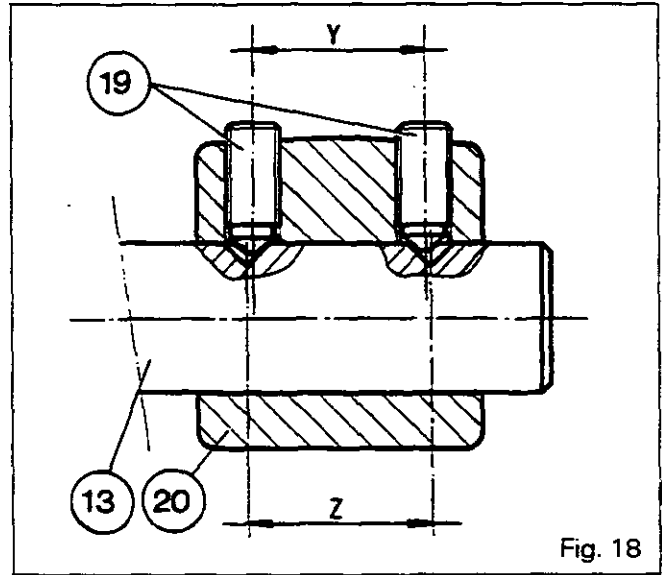

Fig. 18
Principle: The fork (20) is positioned by means of the difference in the spacing between the tapped holes Y and the spacing Z of the spot-facing marks in the piston (13). The fork can be adjusted to move to different positions by acting on either the front or rear screw, depending on the adjustment required (Fig. 18). Set the control piston (13) and synchromesh (31) to the high range (Hare).